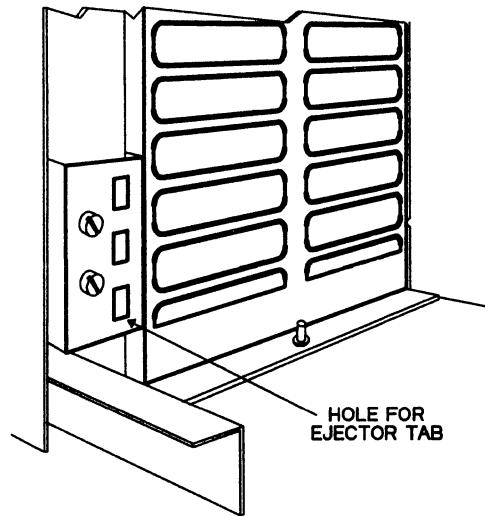

Figure 9-9. XDS/22 Card Cage Ejector Tab Holes
- b) Place card in slot and push it into card cage until it reaches backplane card sockets, then back it out slightly until you can rotate outside edge of each ejector tab into small square hole on side of card cage (Figure 9-9).
- 3) Place card in slot and push it into card cage until it reaches backplane card sockets, then back it out slightly until you can rotate outside edge of each ejector tab into small square hole on side of card cage (Figure 9-9). Be sure card back does not scrape Breakpoint/Trace/Timing logic-analyzer cable.